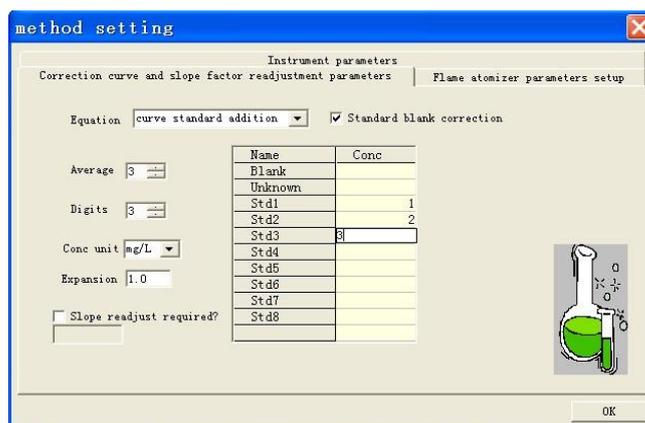

Figure 5-32
6. Select **"Curve standard addition method"** in the "Equation selection" pull-down list. Input the required value. See Figure 5-32.